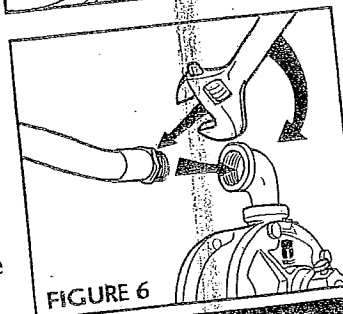

FIGURE 6
15. Install Gas Walker hose assembly to the 90° street elbow and secure with a wrench. (Figure 6)